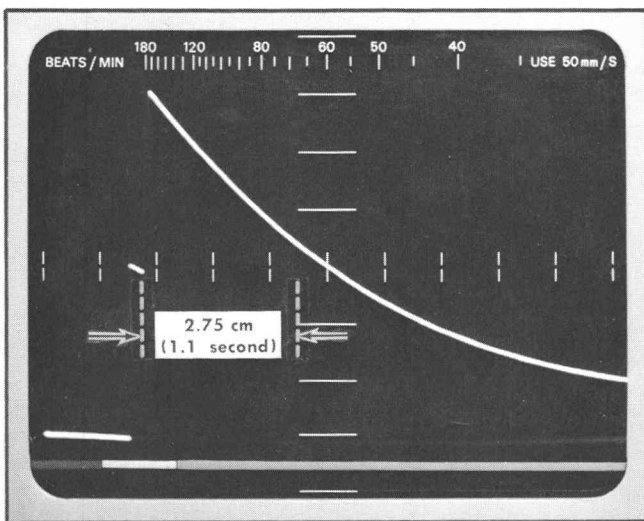

Fig. 5-6. Typical CRT display when checking low frequency -3 dB point.
d. Set the standard amplitude calibrator for a 5-volt $-DC$ output and position the trace to the third cm mark below graticule center (see Fig. 5-6).
f. CHECK—Trace must step to at least the third cm mark above graticule center and decay to graticule center in more than 1.1 seconds (see Fig. 5-6).